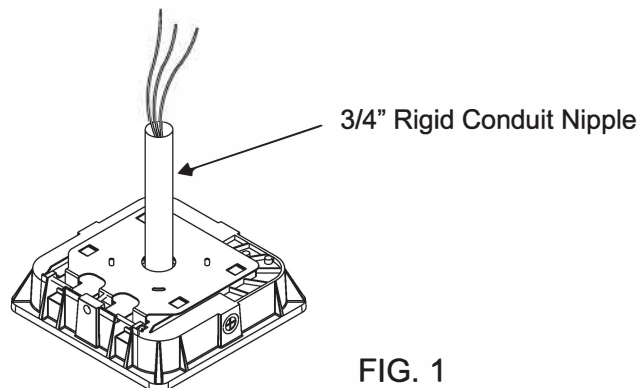

FIG. 1
2. Feed the incoming power wires from the fixture into the pendant (3/4" rigid conduit nipple). Install the pendant into the threaded hole in the fixture casting, and tighten securely. See Fig. 1. Use waterproof silicone to prevent moisture intrusion. Install the other end to a junction box.